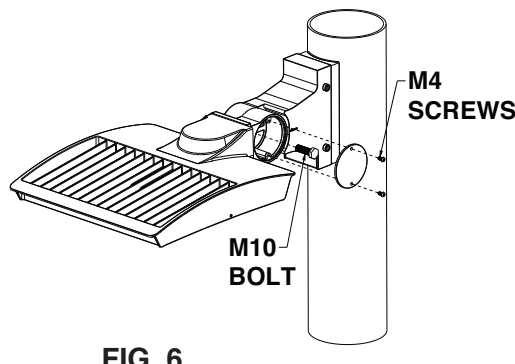

FIG. 6
4. To aim the fixture, remove the cover plate, loosen the M10 center knuckle bolt on the arm, adjust the aim 0 to 60° both upward and downward to the desired angle (see **FIG. 6**).